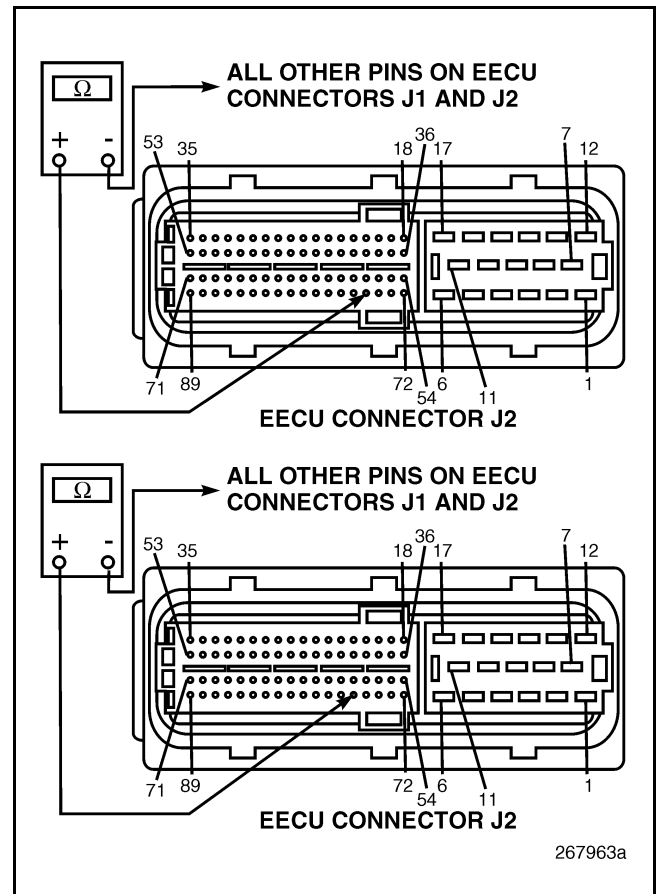

Figure 413
2. Disconnect the Engine Position (EP) Sensor.
4. Check for continuity between the circuit (connector J2 pin 75 or 76) that showed continuity in test 32, versus all other pins on EECU connectors J1 and J2 (see Figure 413).